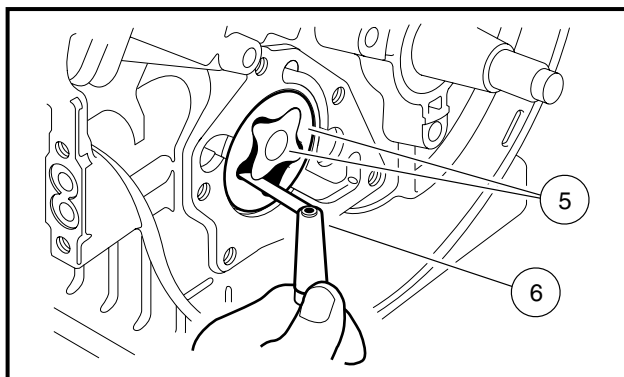

Figure 2-60 Check Clearance Between Rotors
1. Check the clearance between the inner and outer rotors (5) with a feeler gauge (6). Measure the clearance between the high point of the inner rotor and the high point of the outer rotor (**Figure 2-60, Page 2-29**).
3. Remove inner and outer rotors (5).